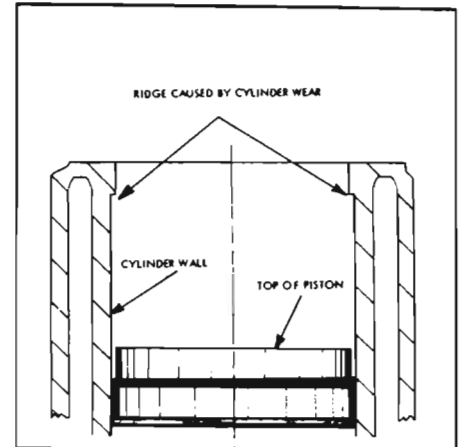

Figure 2-80—Ridge Formed By Rings At Top Of Travel
2. Examine the cylinder bores above the ring travel. If bores are worn so that a shoulder or ridge exists at the top of the cylinder, remove the ridges with a ridge reamer to avoid damaging rings or cracking ring lands in pistons during removal. See Figure 2-80.